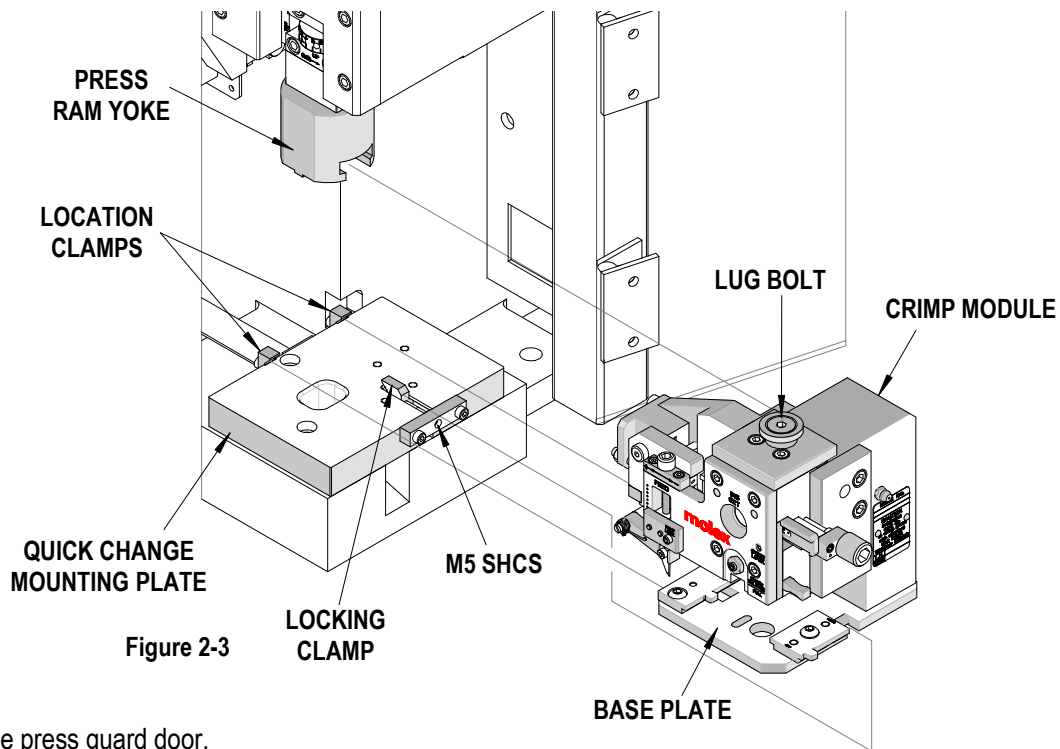

Figure 2-3
- e. Slide the Crimp Module to the left until the two notches in the base plate engage against the location clamps. See Figure 2.3.